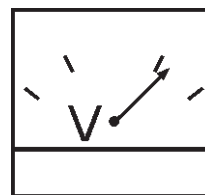

Figure 48. AC Voltmeter
9. The generator's voltage meter (Figure 48) displays the 120 VAC in **VOLTS**. If the voltage is not within the specified frequency tolerance,